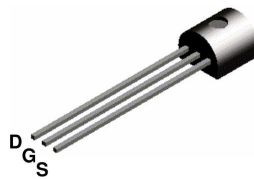
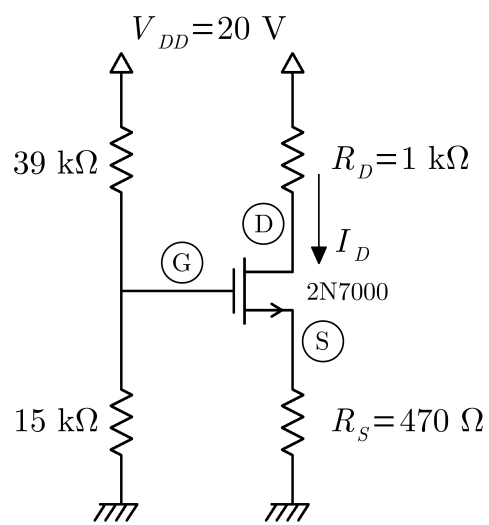

FIGURE 4 –
FIGURE 5 -
6. The pin out of the 2N7000 is presented in figure 4. Build the circuit of figure 5. Measure V_{GS} and V_{DS} with a voltmeter. Calculate I_D from those noting that :